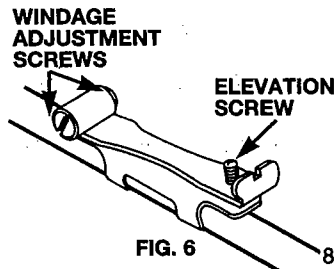

FIG. 6
- The rear sight may be adjusted to shoot higher or lower (elevation). Turn the elevation screw clockwise to make the pellet hit higher on the target. Turn the elevation screw counter clockwise to make the pellet hit lower on the target. (Fig. 6)
- The rear sight may also be adjusted to shoot right or left (windage). To make the pellet hit further to the left on the target, loosen the windage screw on the right side of the sight and tighten the windage screw on the left side of the sight. To make the pellet hit further to the right on the target, loosen the windage screw on the left side of the sight and tighten the windscrew on the right side of the sight. (Fig. 6)